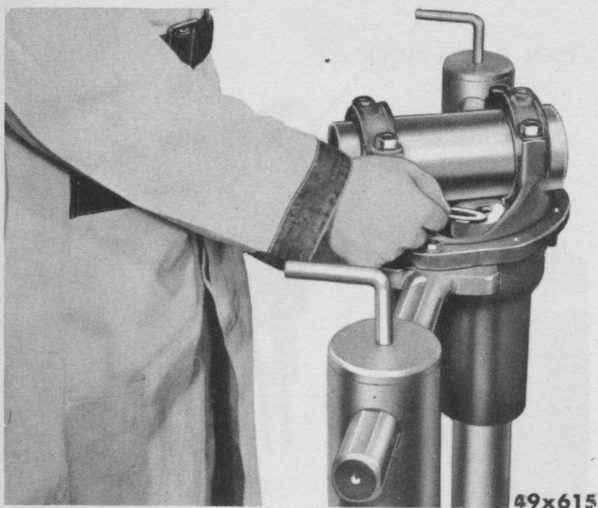

Fig. 18—Spacer Washer Thickness
- (c) The distance between *gauge block* and *cross bore gauge bar* determines thickness of spacer washer to be used, as shown in Figure 18.
(3) Differential Bearing Pre-load and Backlash